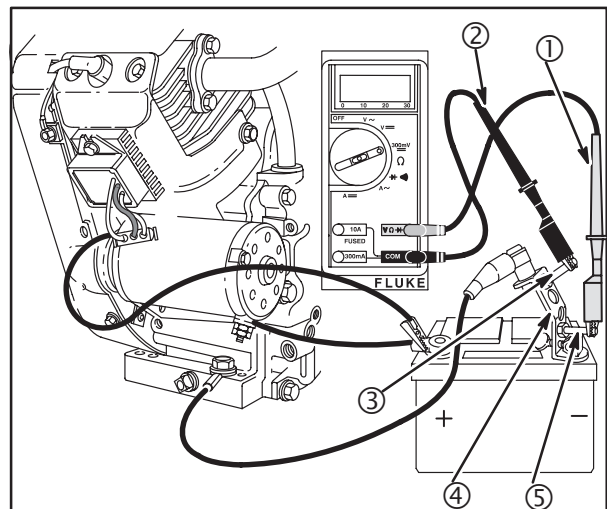

Fig. 32
The DC Shunt **must** be installed on the NEGATIVE (-) terminal of the battery, **Fig. 32** to avoid blowing the fuse in the meter when testing the output of the 20 amp system. All connections must be clean and tight for correct readings.
- Install DC shunt #19359 (4) on NEGATIVE battery terminal.
- Insert RED test lead into **VΩ** receptacle in meter and connect to RED post terminal on shunt (5), **Fig. 32**.
- Insert BLACK test lead into **COM** receptacle in meter. Connect to BLACK post terminal on shunt (3).